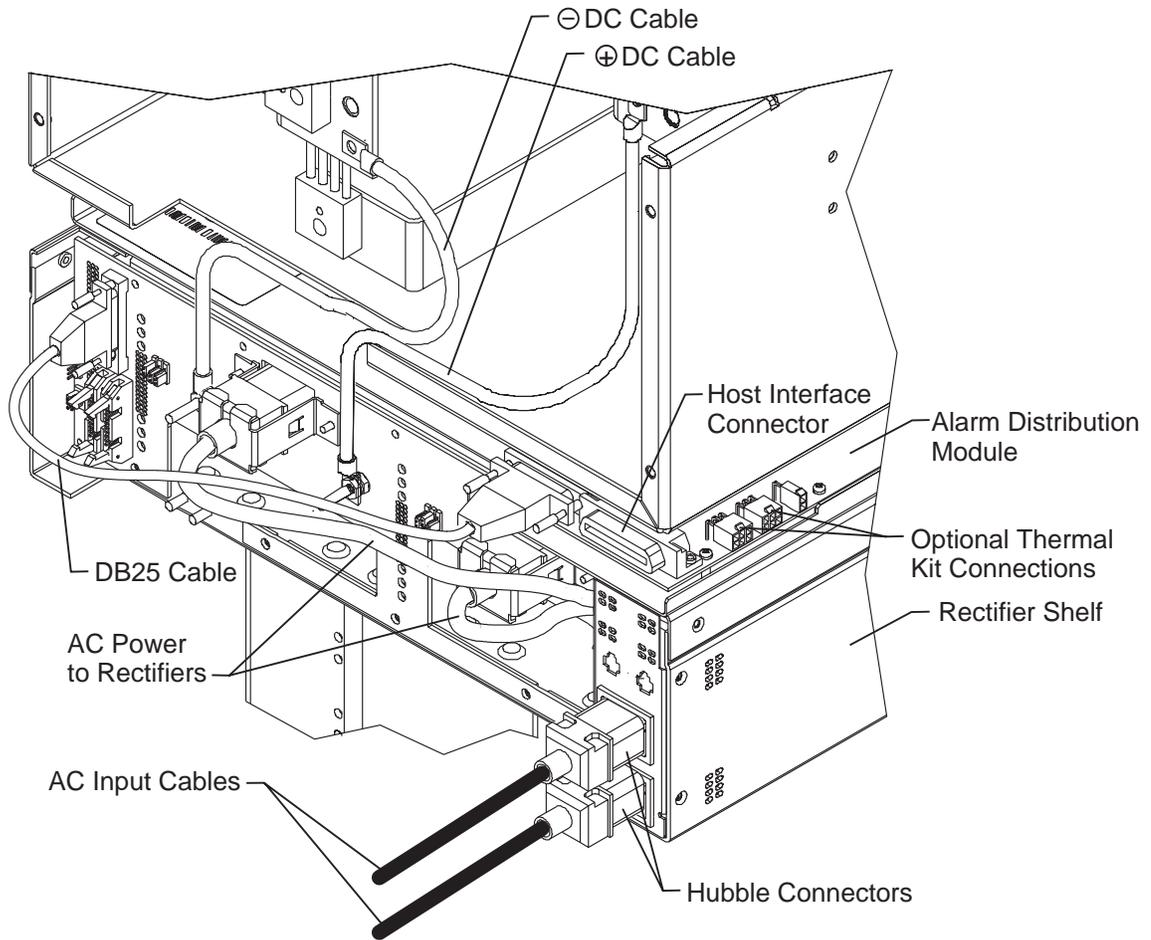

Figure 5-4: Close-up view of alarm distribution module and rectifier shelf wiring
2. Attach one end of the positive (DC+) cable to the stud marked DC+ on the rear of the PS3000A2910 rectifier shelf using the nut furnished. Torque to 25 in-lbs. Attach the other end of the cable to the DC+ busbar located inside the dc distribution assembly using the M6 screw furnished. Torque to 65 in-lbs. See figures 5-4 and 5-5 for more detail.
Torque to 65 in-lbs. See figures 5-4 and 5-5 for more detail.
See Figure 5-4. Attach one end of the DB25 cable to the connector marked J109 located on the rear of the PS3000A2910 rectifier shelf. Attach the other end to the connector marked P5 located on the left rear corner of the alarm distribution module (ADM).